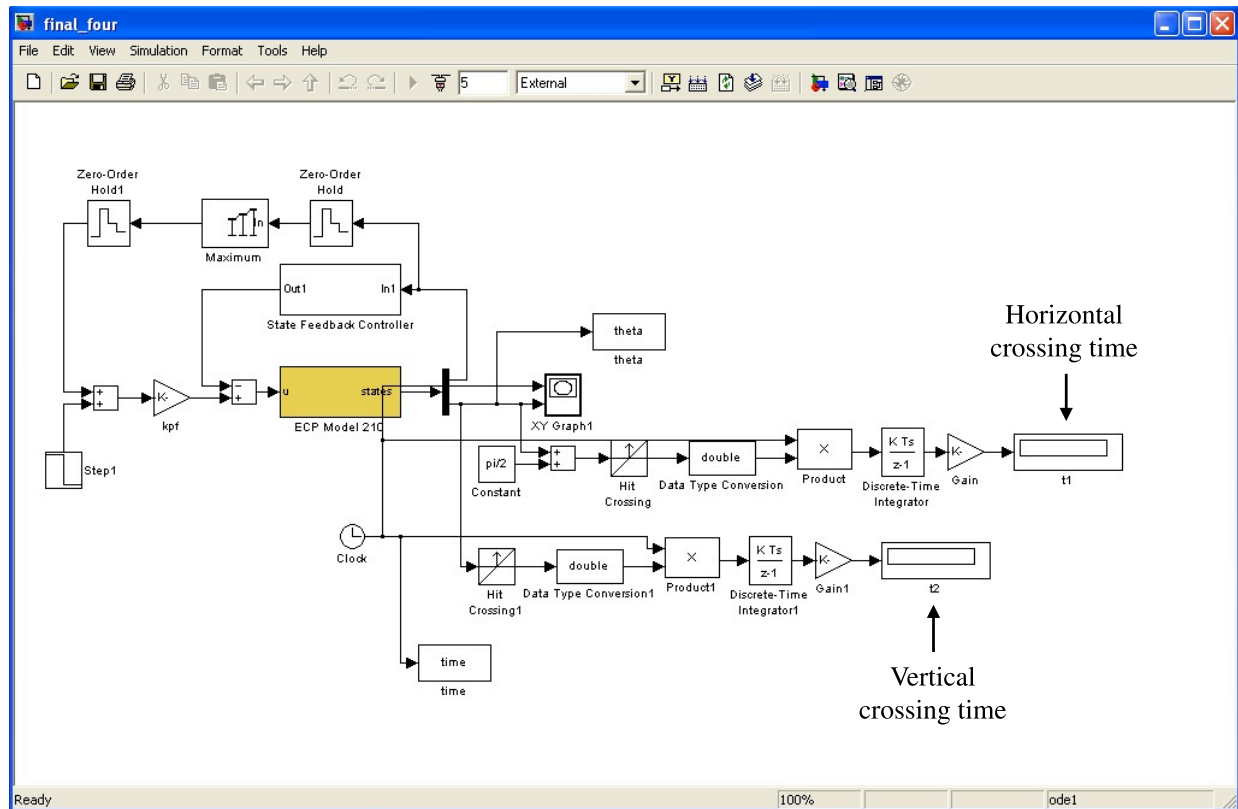

Figure 4. Locations of the displayed horizontal and vertical crossing times in the `final_four.mdl` window.
3. Next, run the final_four.mdl file: push the “connect to target” button and press the “play” button once it turns black. After the “play” button is pushed, the system should do nothing for 4 seconds, and then Cart 1 will move to the left to release the pendulum. The times at which the pendulum crossed the horizontal and vertical positions will be displayed in the t_1 and t_2 blocks, respectively (see Figure 4). Record these numbers in the appropriate locations in your Excel data sheet. If you get a “too fast for this hardware” error message after a run, just ignore it, push close, and carry on – the system will usually continue to work properly.